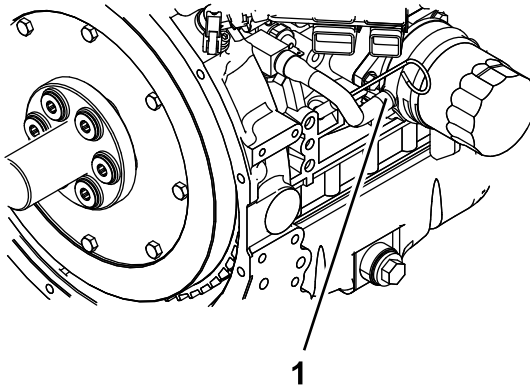

Figure 56
6. Remove the coolant hose from the oil cooler and drain the coolant from the engine block (Figure 56).